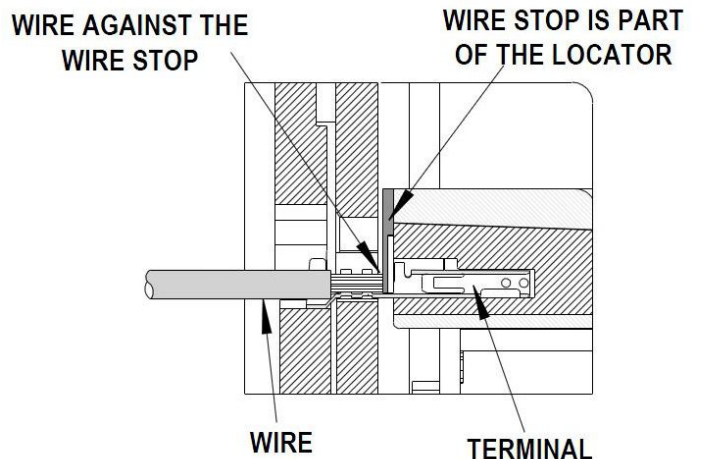

Figure 2
6. Insert the properly stripped wire through the terminal and against the wire stop. See Figure 2.